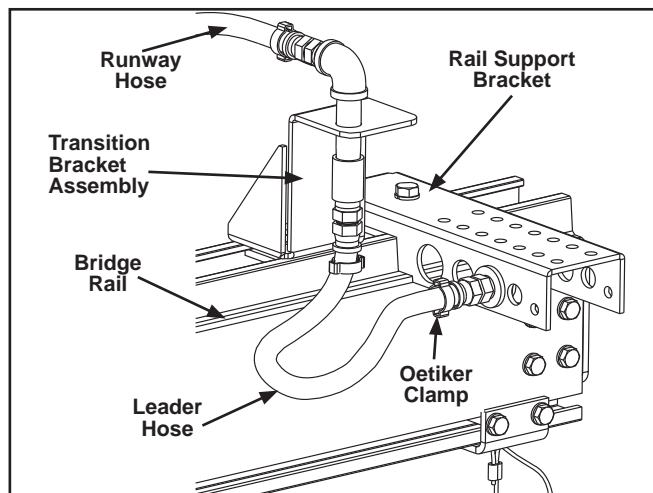
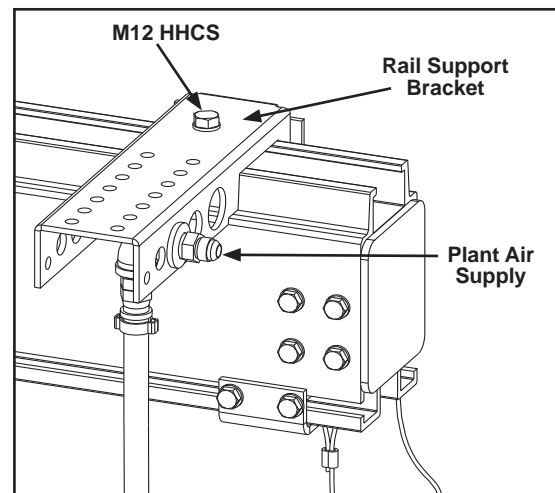

Figure 3-111
Figure 3-112
- Step 1. Attach rail support bracket by loosening cage nut and sliding rail support bracket into rail top channel. Position bracket approximately six (6) in (152 mm) from end of bridge rail. See Figure 3-111.
- Step 8. Reinstall U-bolts trapping hose on trolley, alternating hose loops from inside to outside. Verify hose loops hang down from trolley with a length of approximately three (3) ft (914 mm). Refer to this manual section "Hose Trolley" page 3-30.
- Step 11. Attach leader plant air supply to rail support bracket 90 degree fitting (supplied). See Figure 3-112. Use at least twelve (12) in (305 mm) of hose between bracket and plant hard pipe. Do not hard pipe.